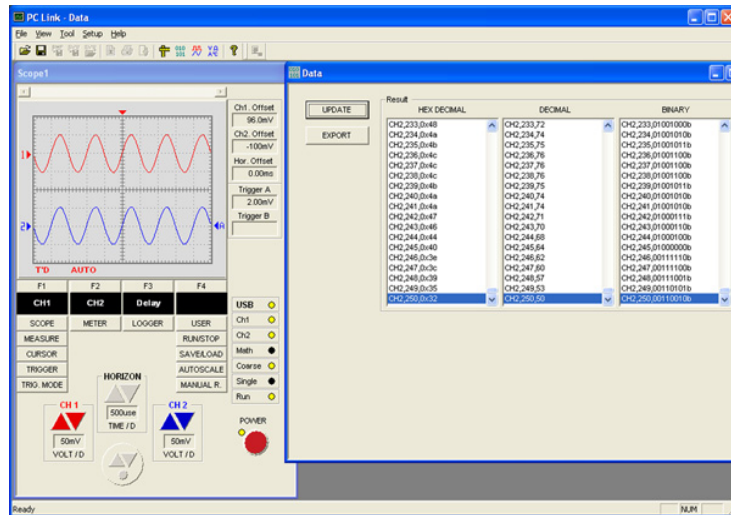

Figure 14 Waveform data window
- 1 To enable the waveform data window, click the **010** **101** on the toolbar, or select Data in the Tool drop-down menu. The waveform data window will appear as shown in Figure 14.